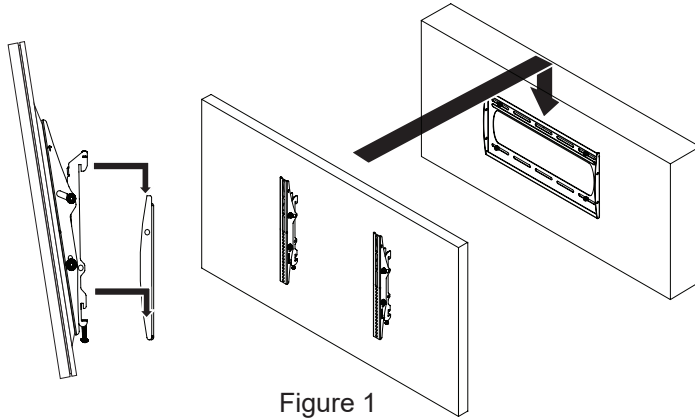

Figure 1
- 3) Mark the straw or toothpick 1/8" above the depth of the threaded insert, as shown in Figure 1.